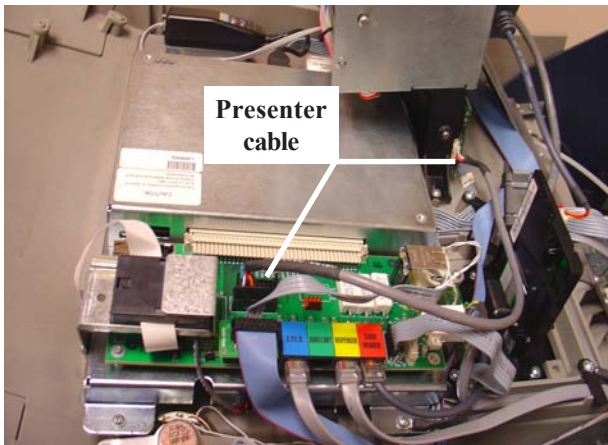

Figure 3. Disconnect presenter board cable.
4. Next, remove the printer presenter cable shown in Figure 3 by disconnecting from the presenter board and docking board assemblies. Use the diagonal cutters to cut the Ty wrap that secures the cable to docking board assembly. This cable will be replaced.